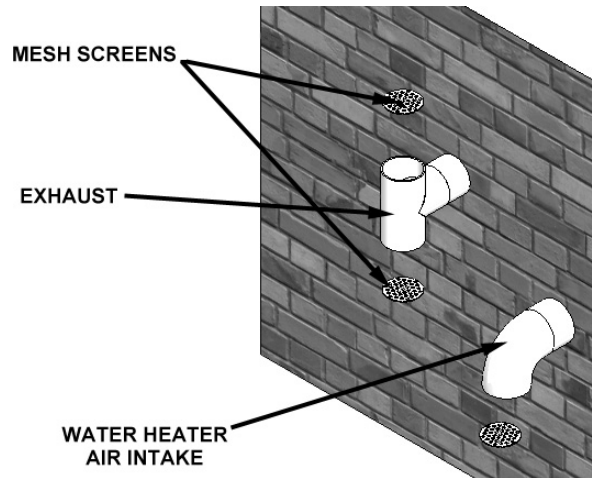
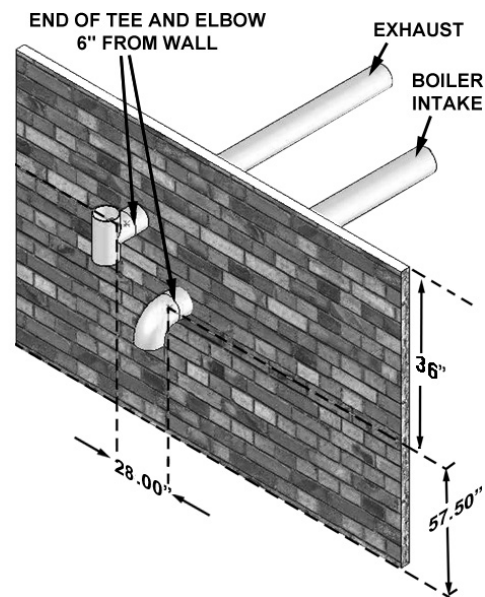

FIGURE 31. AIR/VENT TERMINATION - HORIZONTAL
FIGURE 32. HORIZONTAL CLEARANCES - AIR/VENT TERMINATION
3. The air piping must terminate in a down-turned elbow, using a mesh screen. This setup will avoid recirculation of flue products into the combustion air stream. See Figure 31.
4. The vent piping must terminate with a Tee pointed upwards and away from the air inlet. See Figure 31.
5. Maintain clearances as shown in Figure 31 and Figure 32. Vent must terminate:
Air inlet must terminate at least 12 inches (305 mm) above grade or snow line; at least 12 inches (305 mm) below the vent termination; and the vent pipe must not extend more than 24 inches (610 mm) vertically outside the building as shown in Figure 31 and Figure 32.